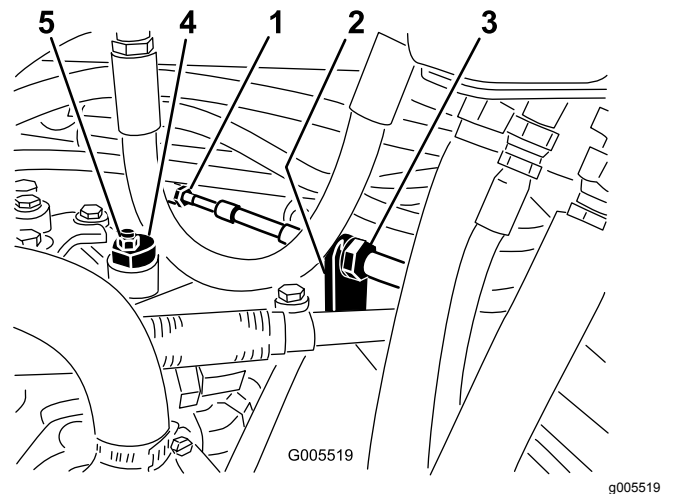

Figure 52
- A. Loosen both jam nuts securing the traction control cable to the bulkhead on the hydrostat (Figure 52). Make sure the jam nuts are loosened equally and sufficiently to allow adjustment.
Note: Loosen the nut securing the eccentric to the top of the hydrostat (Figure 52).
eccentric and the adjustment (Figure 52). Verify the adjustment with the throttle in the Slow and Fast position.
- D. From each side of the bulkhead, tighten the locknuts evenly, securing the traction cable to the bulkhead (Figure 52). Do not twist the cable.